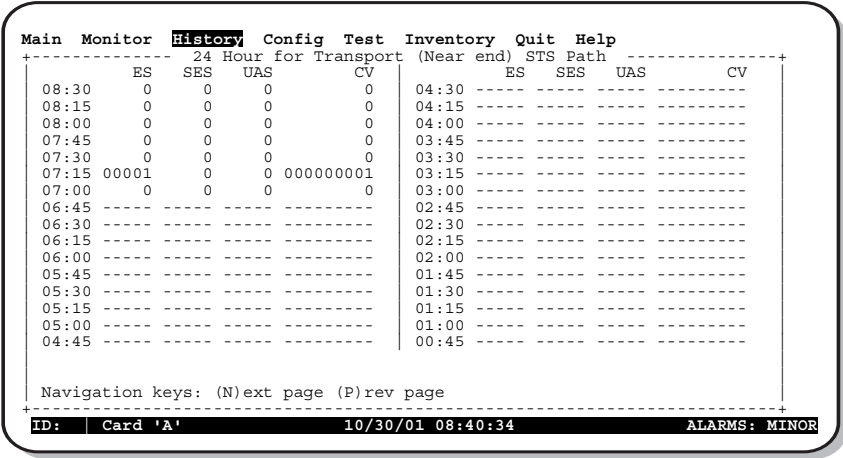

Figure 30. History Menu: 24-Hour Transport - Near End, STS Path
- 3 Type the DS1 port number. The 24-hour (or 7-day) history screen for the service appears. Figure 30 on page 47 is an example of a 7-day history screen for a DS1 port.